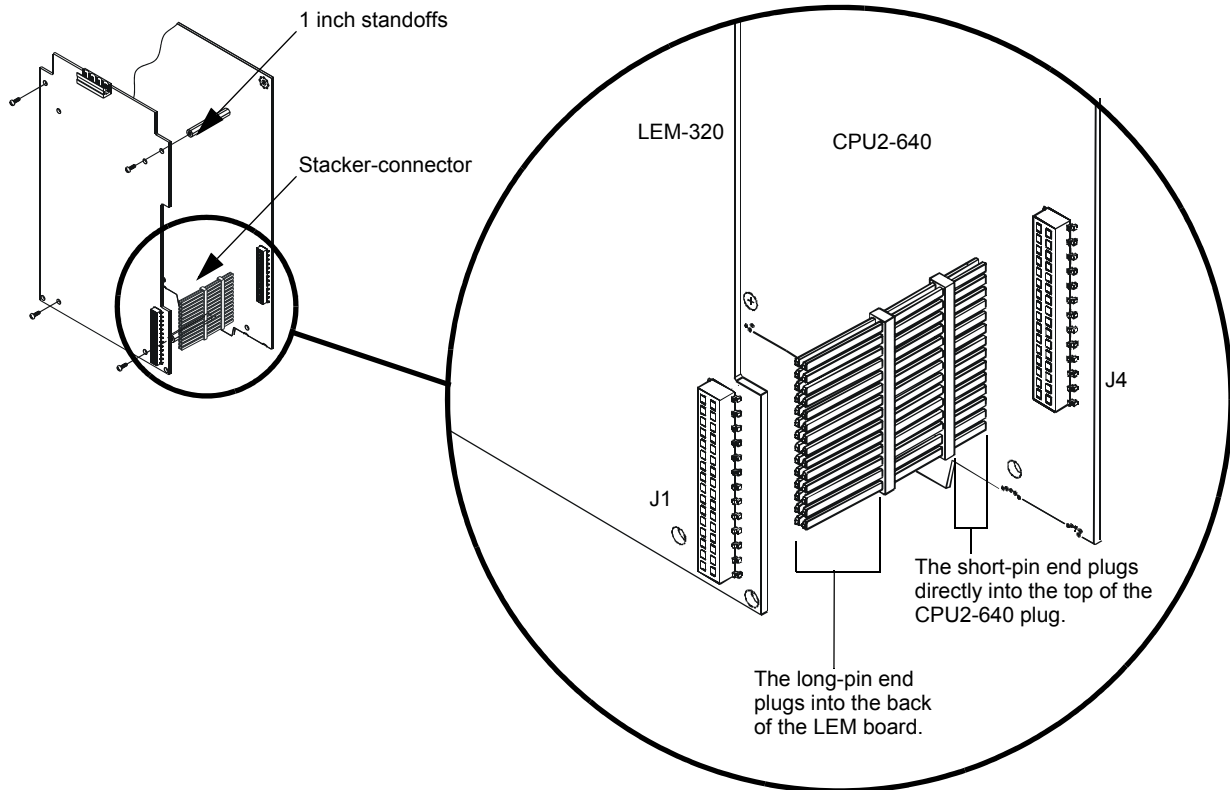

Figure 3.14 Mounting LEM-320 with the Stacker-connector
Installing a Loop Expander Module adds a second SLC loop to the control panel. Refer to Figure 3.14 for stacker-connector illustrations.
2. Align the LEM with the four 1 inch standoffs and the stacker-connector as shown in Figure 3.14; firmly seat the stacker-connector.
**CAUTION:** For the SLC to function correctly, the stacker-connector must be installed as shown in Figure 3.14. **Do not install other option modules on top of the LEM-320.**